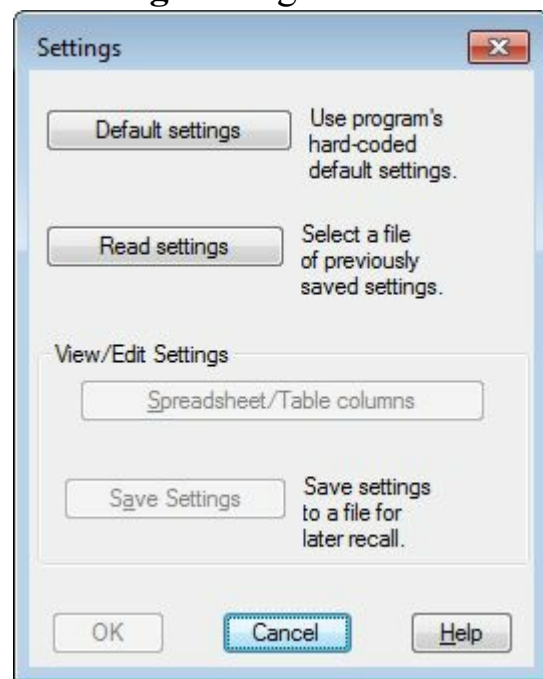

Figure-29. Settings dialog box
- Select the desired data table from the list and click on the **OK** button from the dialog box. The **Settings** dialog box will be displayed; refer to Figure-29.